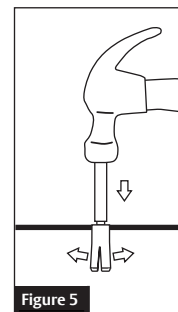

Figure 5
5. Set anchor by striking spreader tool with hammer until the sleeve of the anchor is fully expanded. (Figure 5)